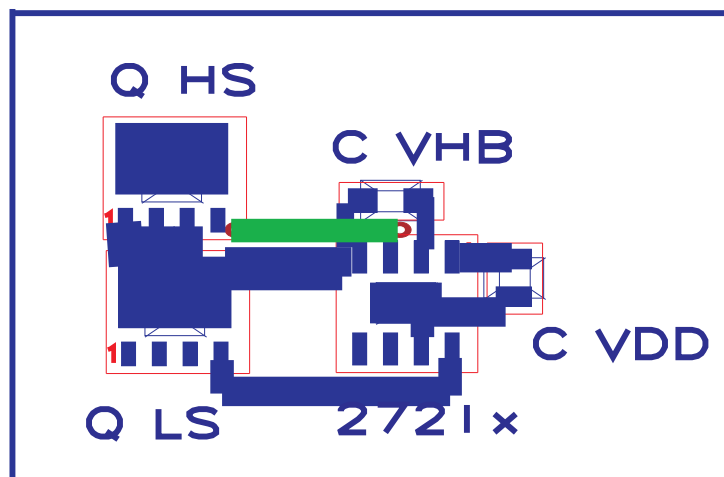

Figure 24. UCC27210/11 Component Placement
- Locate the V_{DD} - V_{SS} and V_{HB} - V_{HS} (bootstrap) capacitors as close as possible to the device (see Figure 24).
- Pay close attention to the GND trace. Use the thermal pad of the DDA and DRM package as GND by connecting it to the VSS pin (GND). The GND trace from the driver goes directly to the source of the MOSFET but should not be in the high current path of the MOSFET(S) drain or source current.